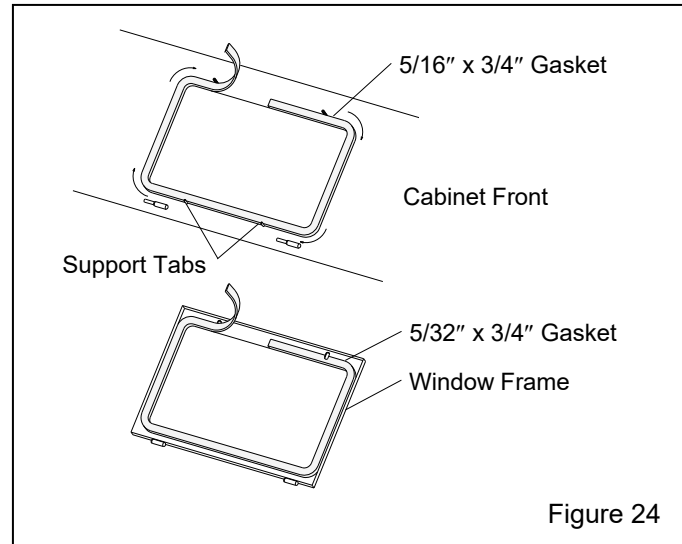

Figure 24
7.5 Window-Gasket Replacement – Figure 24
7.5.4 Peel a short section of adhesive backing from the 5/16"-thick strip gasket and adhere the gasket to the center of the top edge of the window opening, as shown in Figure 24. Peel additional backing as needed and work the strip around the radius of each corner, pressing it firmly to bond. Trim the gasket to fit and compress the ends to seal.